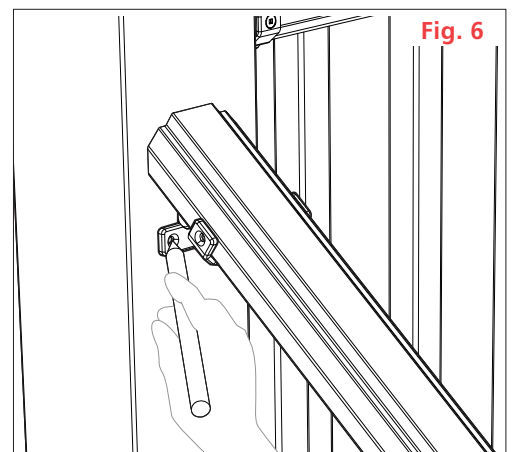

Fig. 6
- 9 Align the top rail over the balusters and install one at a time into the pre-routed holes. Ensure the top rail is fully nested and level with the bottom rail. Position the top rail brackets on the rail, center the bracket on the post and mark the bracket locations on each post. **(Fig. 6)**
- 9 Align the top rail over the balusters and install one at a time into the pre-routed holes. Ensure the top rail is fully nested and level with the bottom rail at the desired angle. Position the top rail brackets on the rail, center the bracket on the post and mark the bracket locations on each post. (Fig. 6)